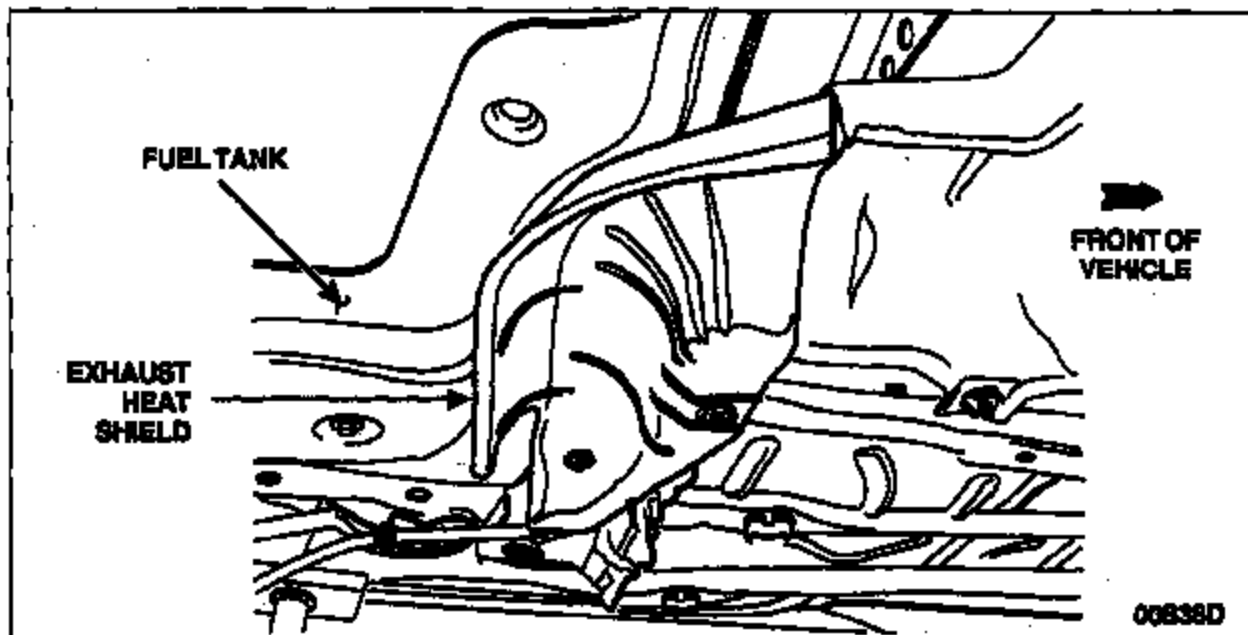

FIGURE 4
7. Remove the exhaust heat shield from the fuel tank area. See Figure 4.